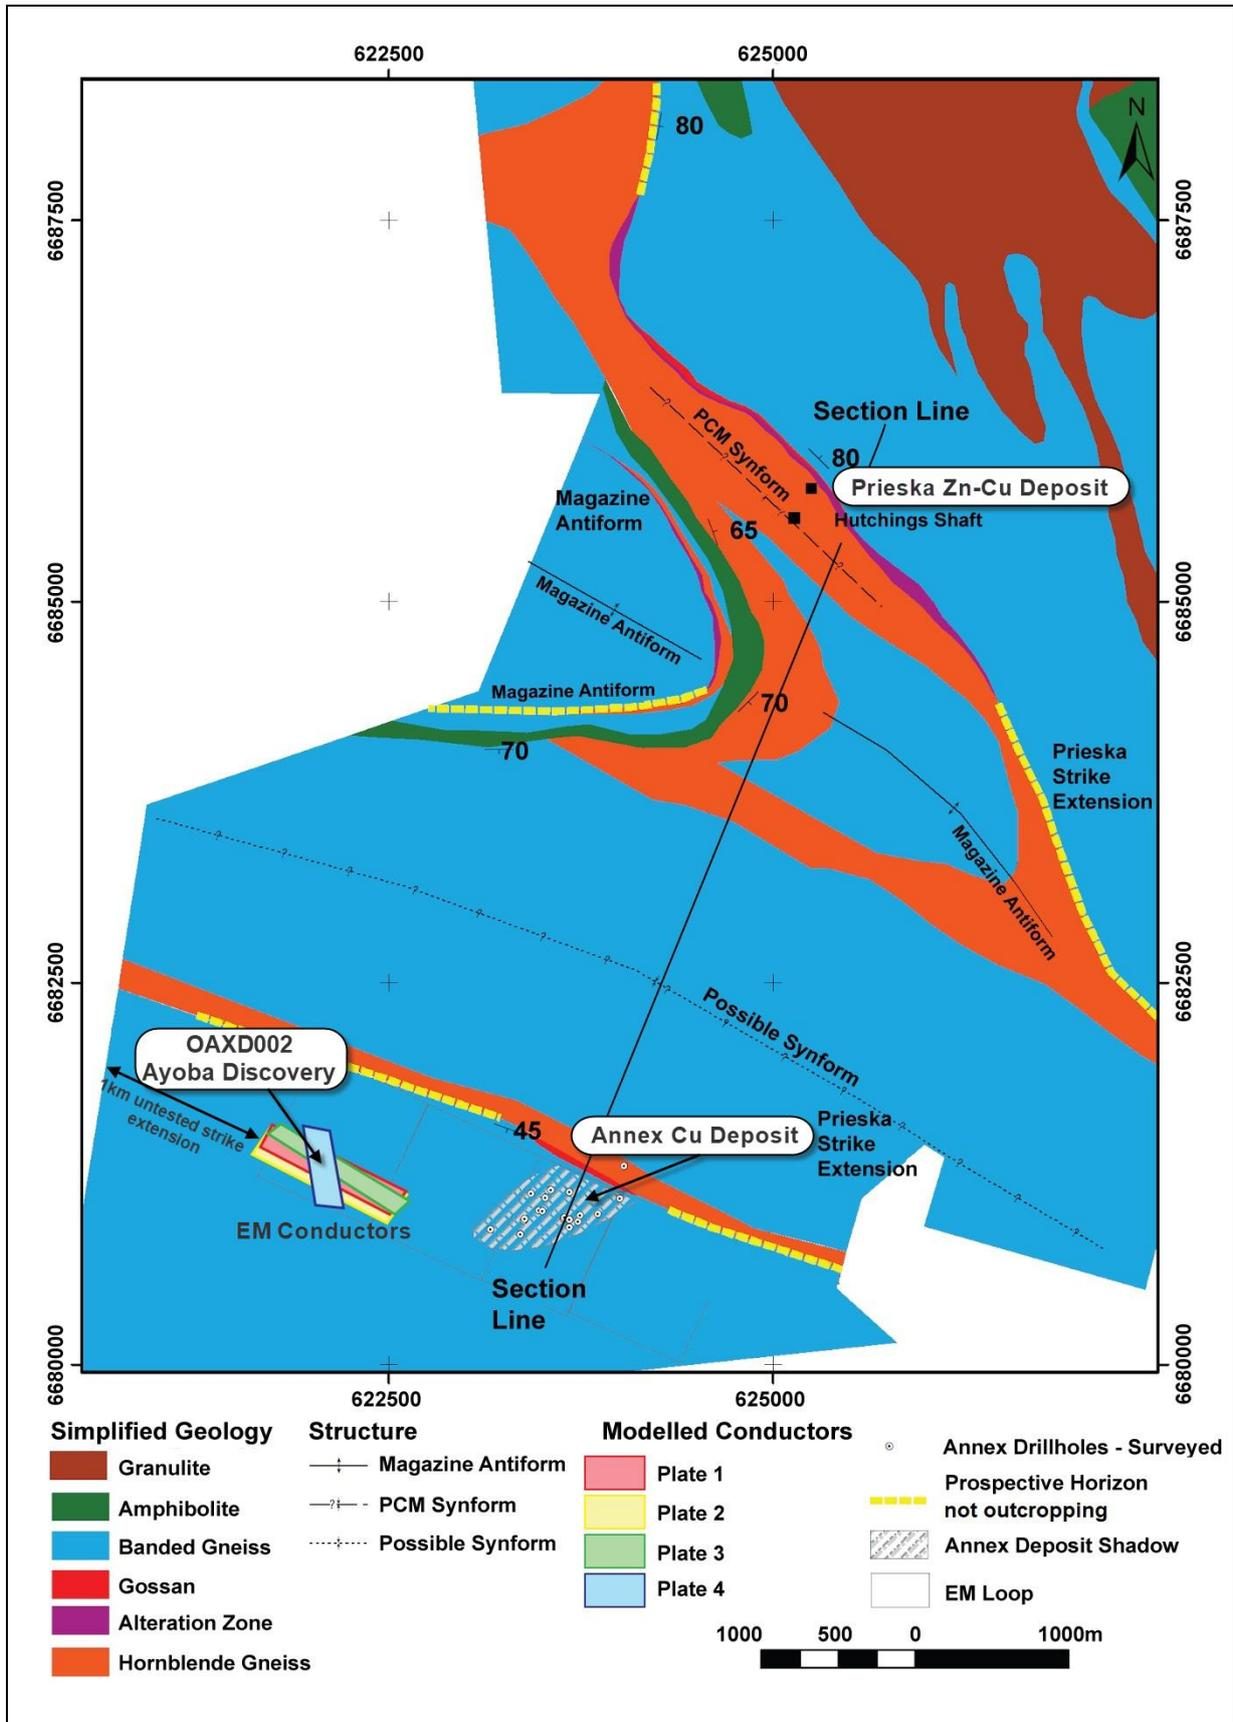

Figure 3: Geology map of the Copperton area.
Hutchings Shaft at the Prieska Project and 1.6km west and along strike of known copper mineralisation at Annex (refer ASX release 25 October 2018) (Figure 3).
The subtle geophysical anomaly and deep-seated character of Ayoba provide encouragement that the mineralisation may be traced beyond the confines of the initial electro-magnetic (EM) survey plate model. The key stratigraphic horizon remains untested by geophysics or drilling for 1000m along strike to the western tenement boundary (Figure 3).